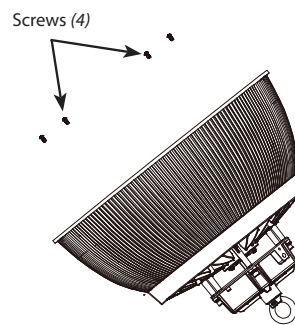

Fig. 3
2. Install the Refractor onto the Heat Sink as shown in Fig. 3.